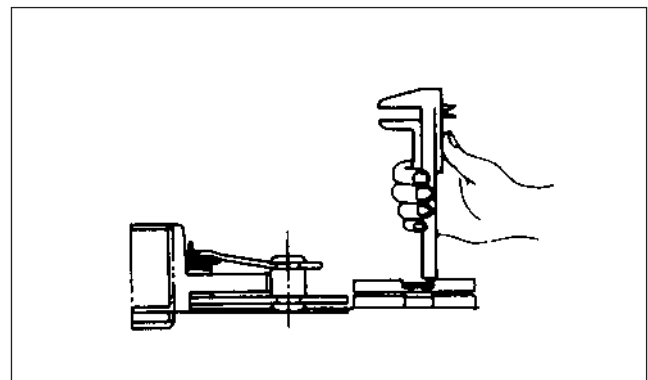

Figure 12. Depression of Rivet head.
- The depression of the rivet head on the driven plate. Replace the Clutch Disc assembly if the thickness of the friction material is less than 0.2 mm (0.008 in) (figure 12).